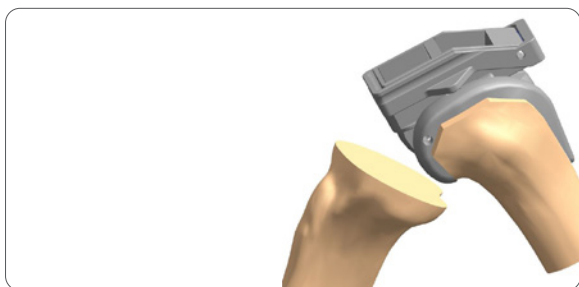

Figure 42
1. Insert the appropriate size JOURNEY II BCS Box Prep Guide into the T-slot of the Femoral Trial from the anterior side until the pegs on the Box Prep Guide engage in the Femoral Trial (**Figure 42**).